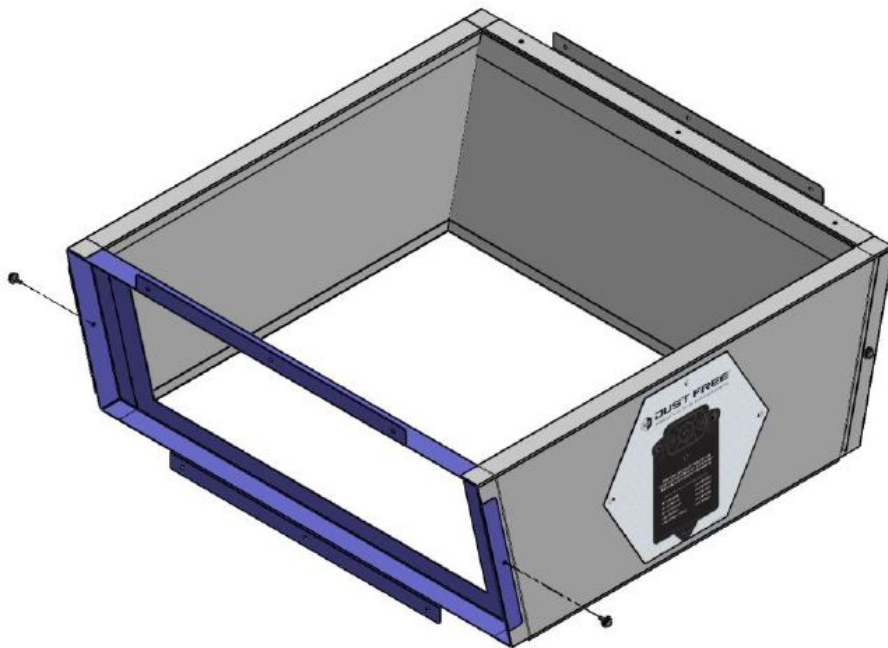

Figure 8: Secure door frame to rest of unit with supplied No.10 x 3/8" screws.
9. Secure the door frame to the side panels using the supplied No. 10 x 3/8 screws in the aligned pre-drilled holes as depicted in Figure 8.
7. Secure the door frame to the side panels using the supplied No. 10 x 3/8" screws in the aligned pre-drilled holes as depicted in Figure 8.